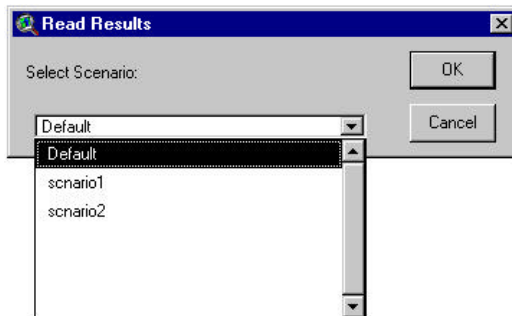

Figure 13.33
- b. If the Calibration Tool was used and the model did run a calibration scenario (see next section), a dialog pops up (Figure 13.33).